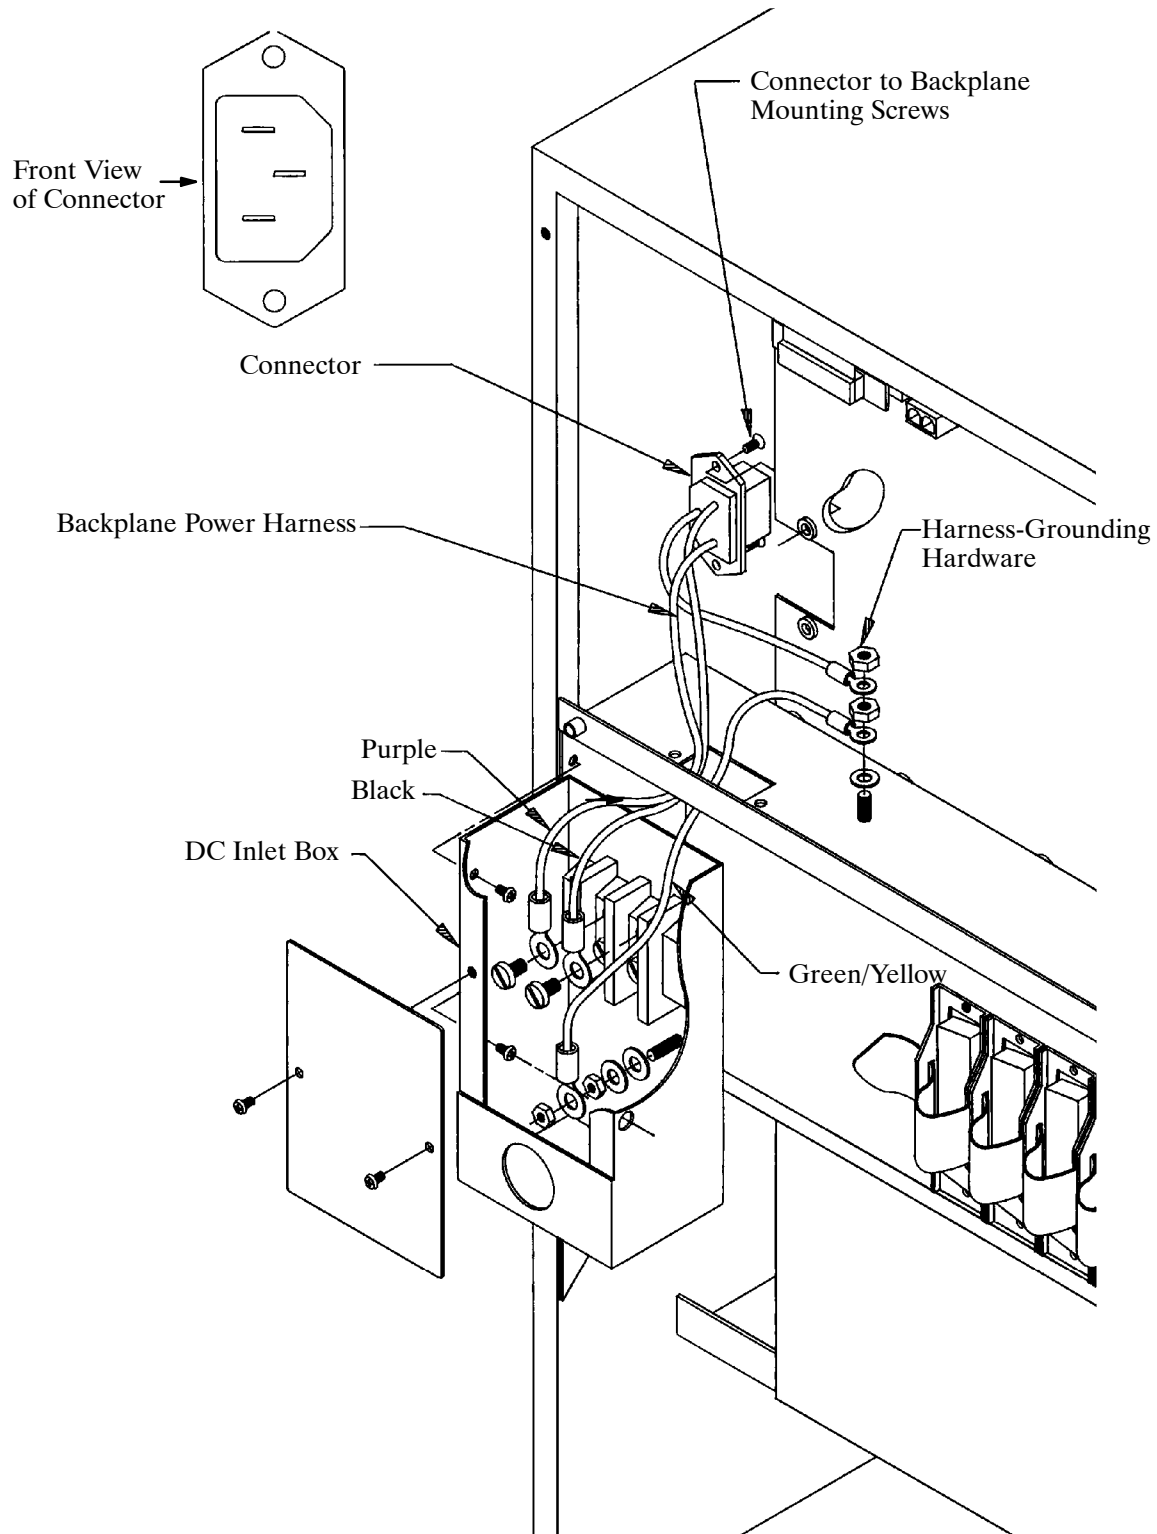

Figure 9-27 D.C. Backplane Power Harness Installation for Octel 200
1. Remove the cover on the DC inlet box, as shown in Figure 9-27.
3. Install the DC backplane harness, as shown in Figure 9-27.
Figure 9-27 for the DC Backplane Power Harness
If the cabinet is DC powered, disconnect the wiring from the DC power source at the DC inlet box. Remove the DC inlet box from the back of the server as shown in Figure 9-27.